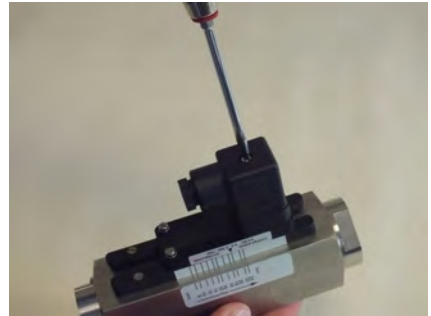

Fig. 63: Loosen female socket
- 1.** ▶ Loosen the fixing screw of the female socket (Fig. 63) with a flat-bladed screwdriver